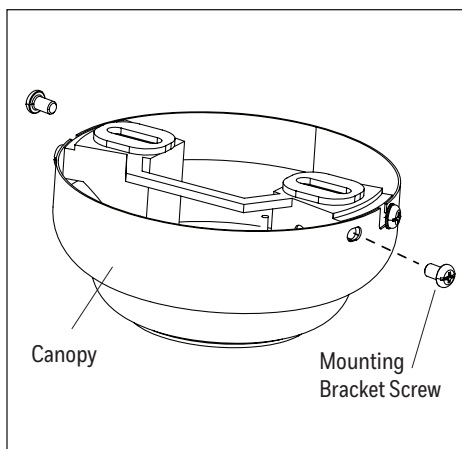

Figure 2.1
1. Loosen all four mounting bracket screws and completely remove the two screws from the round holes in the canopy. Then remove mounting bracket from the canopy and save them for later (Figure 2.1).